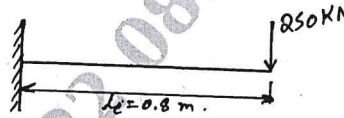

Fig.Q5(b)
b. A cantilever beam subjected to point load of 250 kN as shown in Fig.Q5(b). Determine the deflection at the free end and the support reactions. Take  $E = 200 \text{ GPa}$ ,  $I = 4 \times 10^6 \text{ mm}^4$  and  $l_e = 0.8\text{m}$